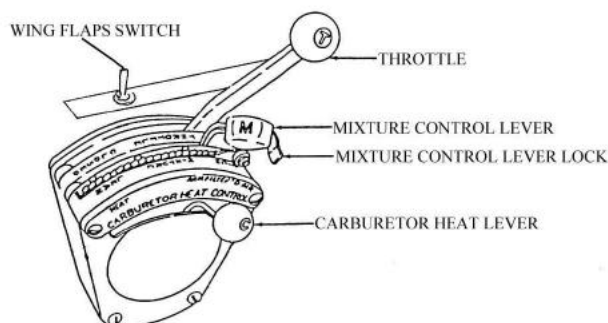

Figure 1-6 Engine Control Quadrant
19. The front cockpit has a three-position, spring-loaded wing flap switch mounted on the window ledge adjacent to the engine control quadrant (Figure 1-6). The switch positions are labelled FLAPS UP (forward) and FLAPS DOWN (aft). These are operated by Left Mouse Button LMB For down and RMB for UP. The centre position of the switch is the OFF position.